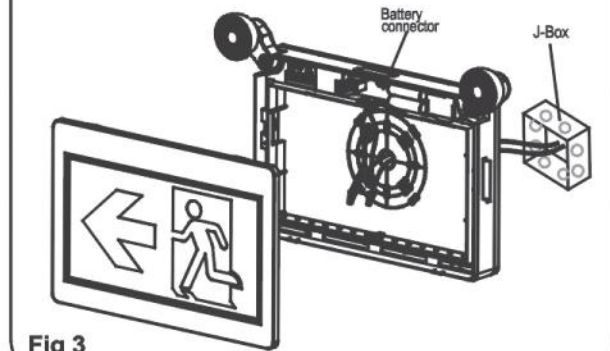

Fig 3
2. Knockout appropriate mount screw hole and cable hole, mount back plate on the wall after feed building AC supply cable into back plate(see Fig 3).